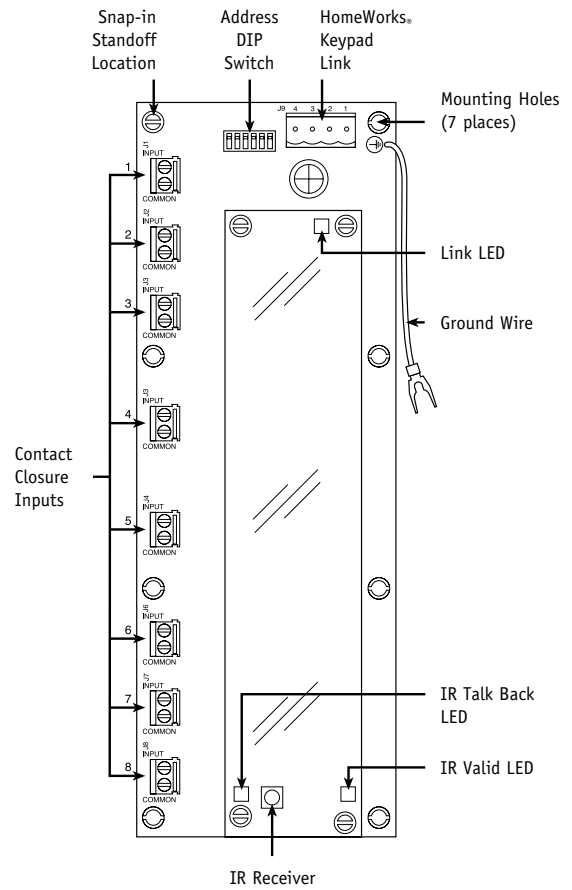

Figure 2 – HWI-CCI-8 Parts Identification
IR Receiver	Are compatible with these Lutron IR transmitters only: SP-HT-WH, SPS-FSIT-RP, SPS-4IT-RP, GRX-IT-WH and GRX-8IT-WH. An IR flasher can be mounted directly to the clear plastic shield over the IR receiver. See Fig. 2, pg. 144. Also see Appendix C: Infrared (IR) Integration.